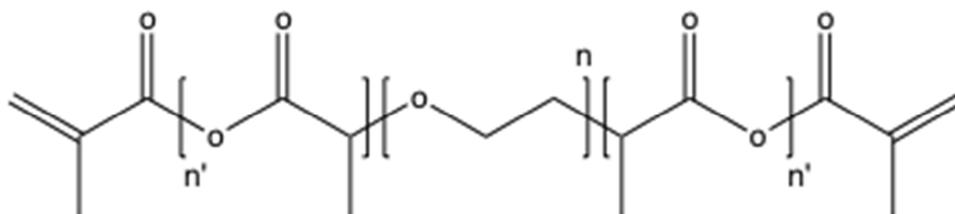
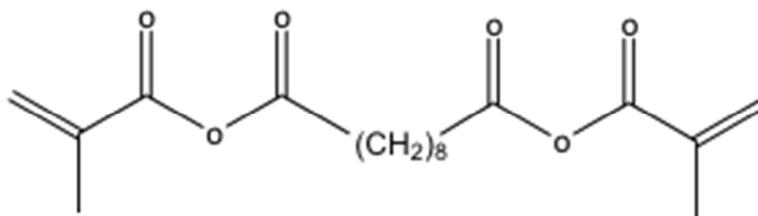
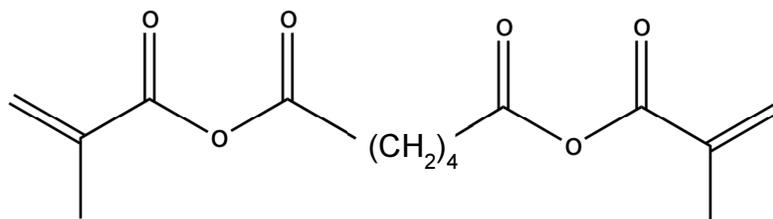

Figure 1. Methacrylated poly(ethylene glycol)-poly(lactic acid); (PEG-PLA-MA)
Figure 2. Methacrylated sebacic acid; (MSA)
Figure 3. Methacrylated adipic acid; (MAA)
The precursor molecules that will be used in this lab are “linear” in shape, with each molecule having two reactive methacrylate-functionalized end groups through which cross-linking and network formation will occur. The first molecule (PEG-PLA-MA; Fig.1) was initially modified to contain terminal lactide groups through the process of ring-opening dl-lactide. Following the addition of lactide the PEG molecules were terminally functionalized with methyl methacrylate. The second molecule (MSA; Fig.2) was synthesized by terminally functionalizing sebacic acid with methyl methacrylate. The third molecule (MAA; Fig.3) was synthesized by terminally functionalizing adipic acid with methyl methacrylate. As previously performed in lab #1, the synthesis of the mesh-networks will take place by exposing the solution phase precursor mixture to UV light in the presence of a radical generating photo-initiator.
2. Create a graph illustrating the relation between mass loss and time (similar to *Metters et al.2000* Fig. 2) for each of the experimental groups. Discuss any trends observed.
6. What is the root cause for the degradation of each network? Using figures 1, 2 and 3, explain which structural groups contribute the mechanism of degradation and how they contribute.
7. From the graphs created in 2-4, compare and contrast the degradation of the MSA and the MAA. Using figures 2 and 3, explain any differences which are observed.